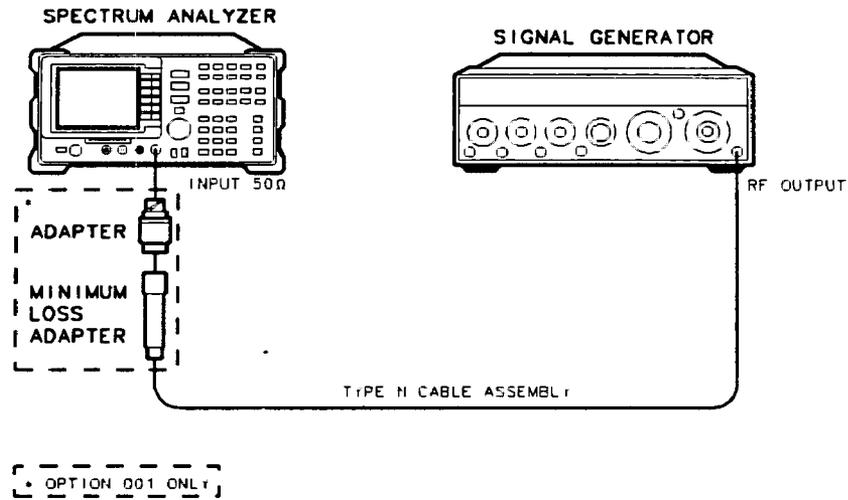

Figure 3-4. System Related Sidebands Test Setup
2. Connect the equipment as shown in Figure 3-4.